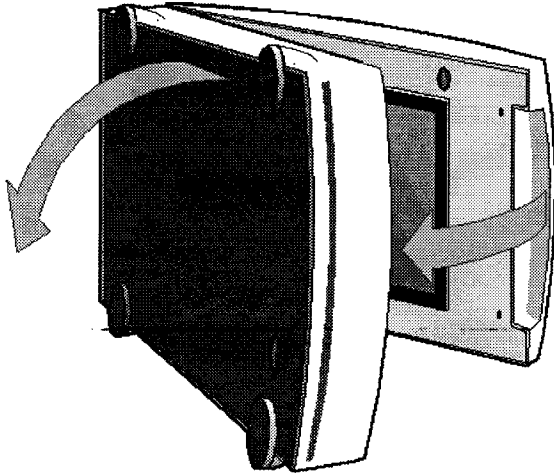

Fig. 2.3 Moving the transparency module and turning the densitometer upright.
3. Move the transparency module towards the body and turn the densitometer upright (Figure 2.3).